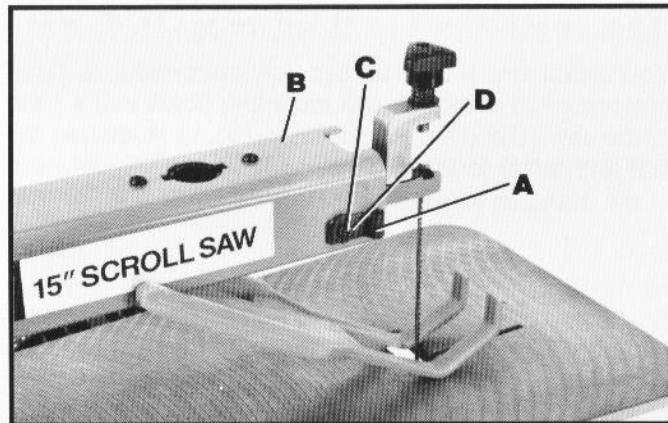

Fig. 6
2. Assemble bracket (A) Fig. 6, to upper arm guard (B) as shown using pan head screw (C) and flat washer (D). **NOTE:** Do not overly tighten hardware as adjustment will be necessary.